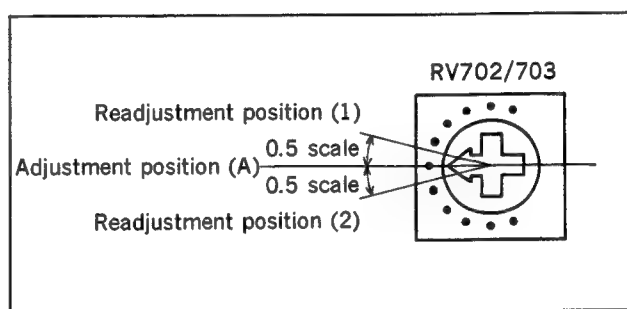

Fig. 6-9-14 Adjustment range for RV702 and RV703
21. Turn the potentiometer to 1/2 of the scale to clockwise direction against the adjustment position (A) where the specification was not met, and perform step 13 thru. step 18 for MP tape or steps 19 and 20 for ME tape. Confirm the specification is met (see Fig. 6-9-14).
22. When the specification is not met by one time readjustment, compare the PCM RF wave shape level at the adjustment position (A) (See Fig. 6-9-14) with the PCM RF wave shape level of the video inserted portion that the first readjustment was done.
When the PCM RF wave shape for the first readjustment is smaller than that for the adjustment position (A), turn the potentiometer at the readjustment position (2) as shown in Fig. 6-9-14